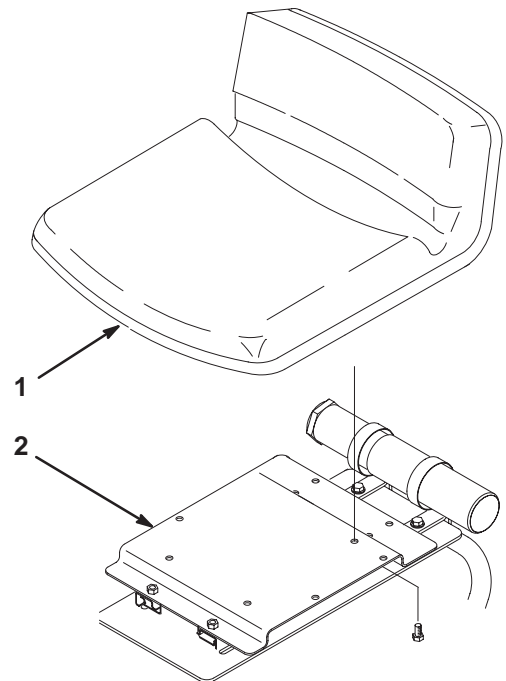

Figure 3
1. Secure the seat to the seat plate with 4 capscrews (5/16 x 5/8 in.) (Fig. 3).